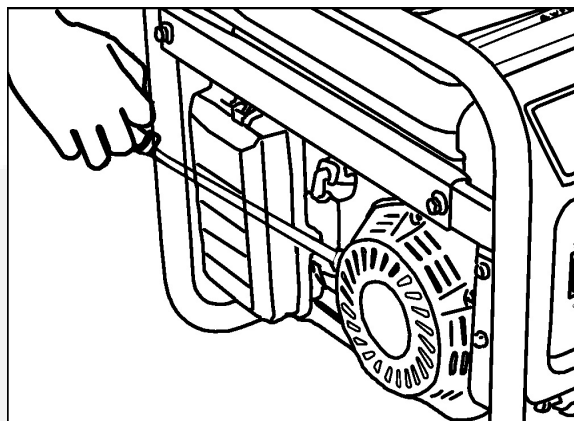

FIGURE 7. RECOIL START HANDLE
4. With one hand on the generator, grip the recoil handle with the other hand and pull it out quickly and smoothly. Repeat as necessary until the engine starts (see Figure 7).